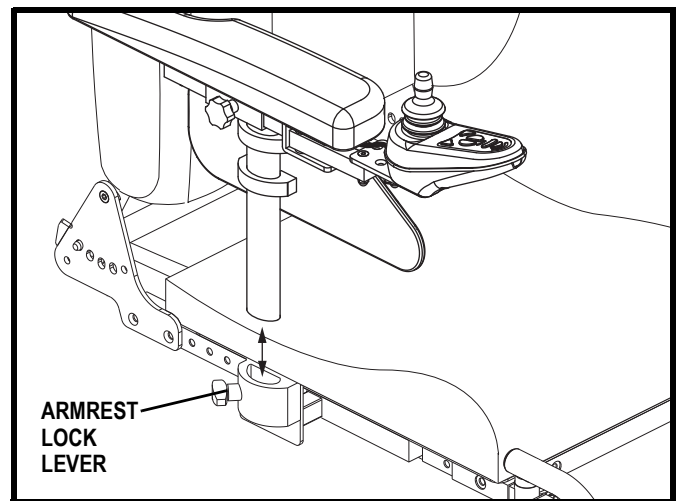

Figure 17. Armrest Top Height Adjustment
1. Pull out the armrest lock lever. See **figure 17**.